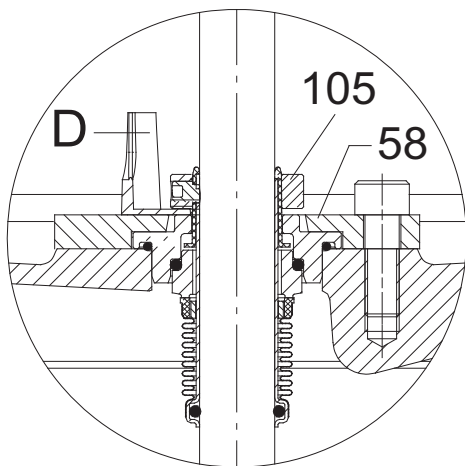

Fig. 2 Shaft seal
Remove the screws (pos. 7a) and the coupling guards (pos. 7). Keep the shaft seal in position on the shaft by inserting the adjusting fork (pos. D) between the shaft seal (pos. 105) and the seal carrier (pos. 58). See fig. 2.
Keep the shaft seal in position on the shaft by inserting the adjusting fork (pos. D) between the shaft seal (pos. 105) and the seal carrier (pos. 58). See fig. 2.
Press the pump shaft down, and fasten the shaft seal on the shaft with the screws (pos. 113). See fig. 2.